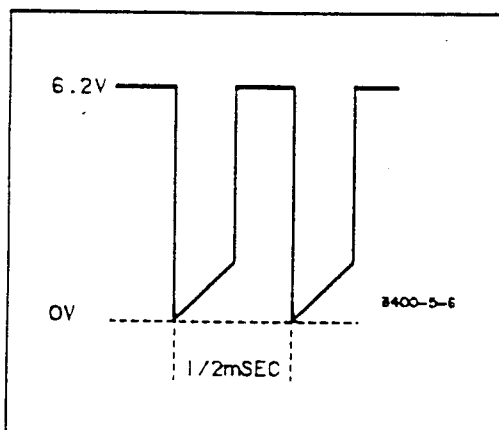

Figure 5-7. Input to Demodulator
- ① Set the 3400A to the 1V range. Apply 1V 400Hz ac signal to the input terminals. Measure the signal at junction of C413 and C415. The reading should be between 240mV and 280mV RMS.
- ② Measure the signal between TP2 and TP1 on the A6 assembly. The signal should look like the one in Figure 5-7.
- ③ Troubleshoot and repair oscillator circuitry.
- ④ Turn the 3400A off and place the A6 board on an extender board (-hp- 5060-6038). Unsolder and lift one end of R616 from the board (the dc feedback is now disconnected). Set the instrument to the 1V range and apply a 1V, 400Hz RMS ac signal to the input terminals. Using a Digital Multimeter (like the 3468A/B), measure the voltage between TP3 and TP1 on the A6 assembly. The voltage should be approximately 2mV to 2.5mV ac.
- ⑤ Check for a defective TC401. TC401 may also be disconnected from the output of the video amplifier via capacitors C413 and C415.
- ⑥ Turn the instrument off and replace and resolder R616 on the A6 board. Make sure the 3400A is still on the 1V range and the 1V, 400Hz signal is still applied. Turn the instrument on and measure the voltage between TP4 and TP1 on the A6 board. The voltage should approximately be -4V dc.
- ⑦ If the voltage is positive, check for a shorted CR603. If the voltage is negative but other than -4V, U602 or TC401 may be defective.
- ⑧ Check the voltage between TP5 and TP1 and make sure it is -19V.
- ⑨ Troubleshoot the filter circuitry consisting of R617 through R619, and C606 through C608.
- ⑩ Check the voltage between TP6 and TP1 and make sure it is approximately -1V.